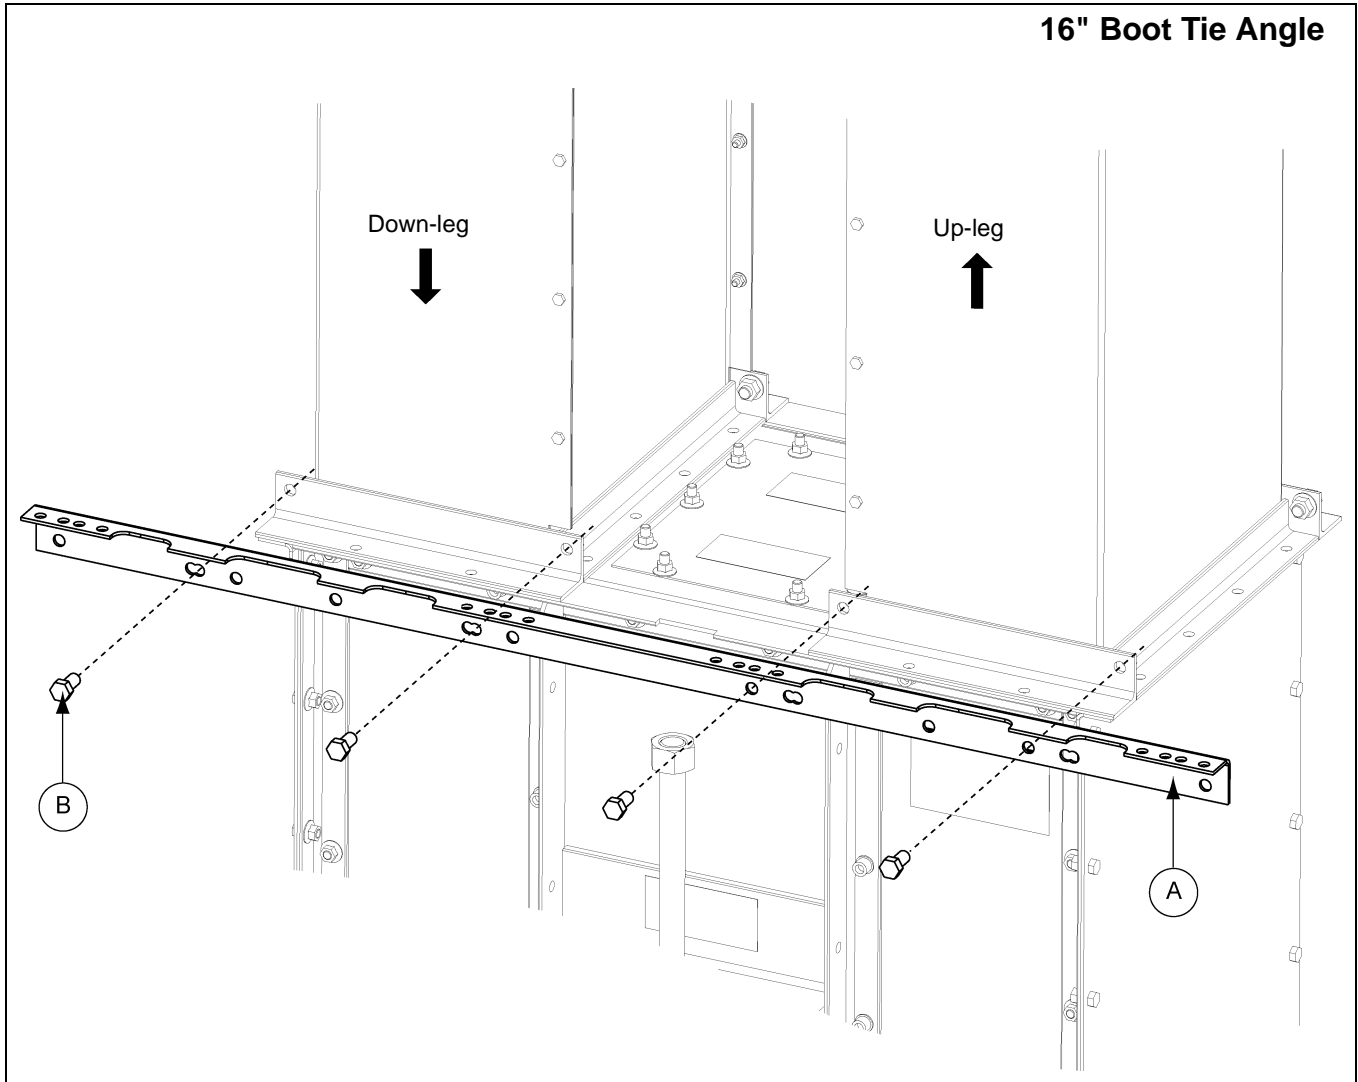
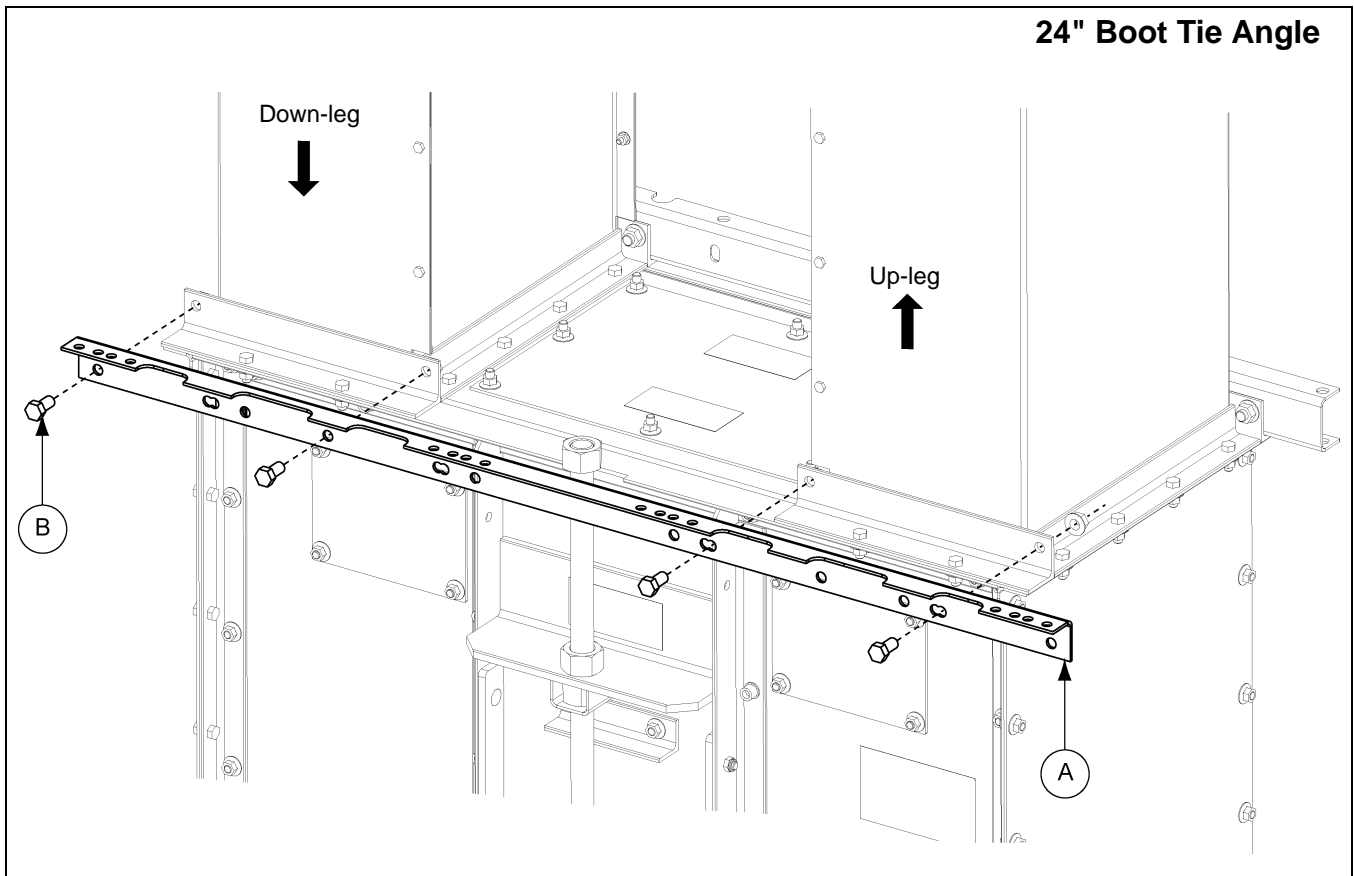

Figure 6A 16" Boot Tie Angle
Figure 6B 24" Boot Tie Angle
1. On the NON-LADDER SIDE, attach tie angle to the trunking using 1/2" x 1" bolts. (See Figure 6A below and Figure 6B on Page 18.)
- a. **For 16" Boot Tie Angle:** With lip of tie angle up and outward, align tie angle so that it extends beyond the trunking at each end. (See Figure 6A.)
- b. **For 24" Boot Tie Angle:** With lip of tie angle up and outward, align edge of tie angle to edge of trunking at down-leg end. With this alignment, tie angle will extend slightly beyond the edge of trunking at the up-leg end, as shown in Figure 6B.